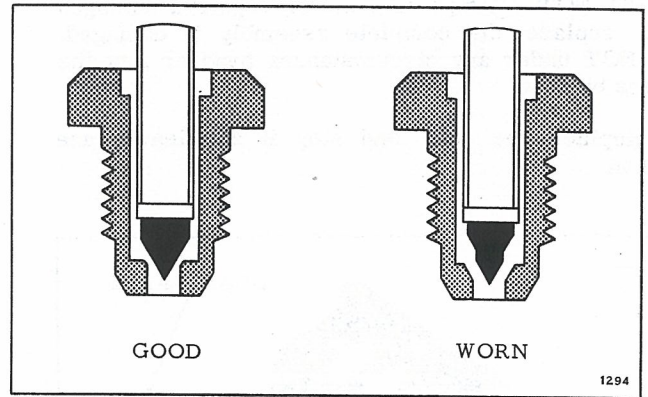

Figure 3-10. Inlet Needle Valve Seat Wear
c. Check the needle valve seat with a magnifying glass; if seat is nicked, scratched, or worn out-of-round, it will not give satisfactory service. See Figure 3-10. The valve seat and needle are a